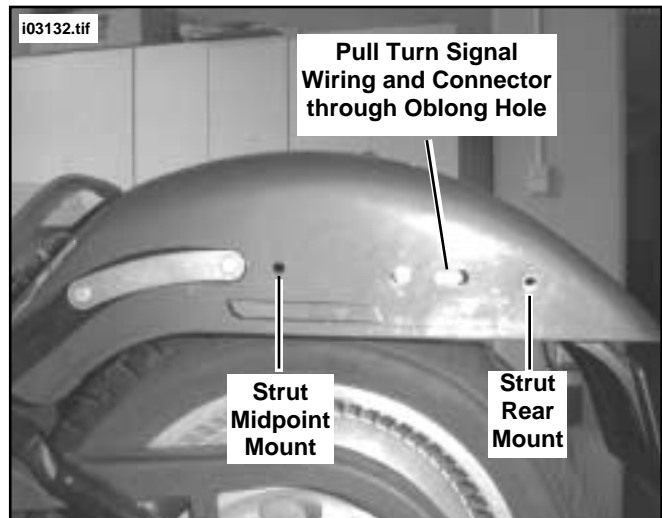

Figure 5. Fender with Cover Capscrews and Strut Cover/Turn Signal Assembly Removed
7. See Figure 5. Carefully remove strut and signal lamp assembly with wiring through holes in fender. Save capscrews and washers for installation.